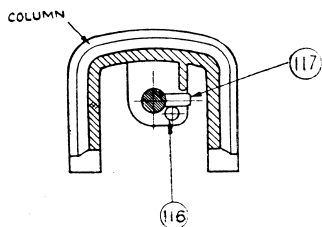

FIG. 9
of the rib, or through the Back Stop Pin (116) having become bent and forcing the Pin (117) back against the rib. (See Fig. 9.)